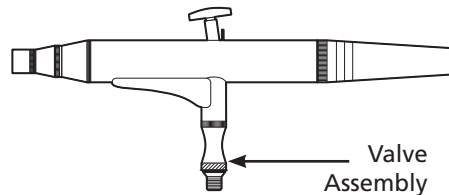

Figure 17
4. Remove valve assembly by turning in a counterclockwise direction with supplied assembly wrench. See Figure 17.